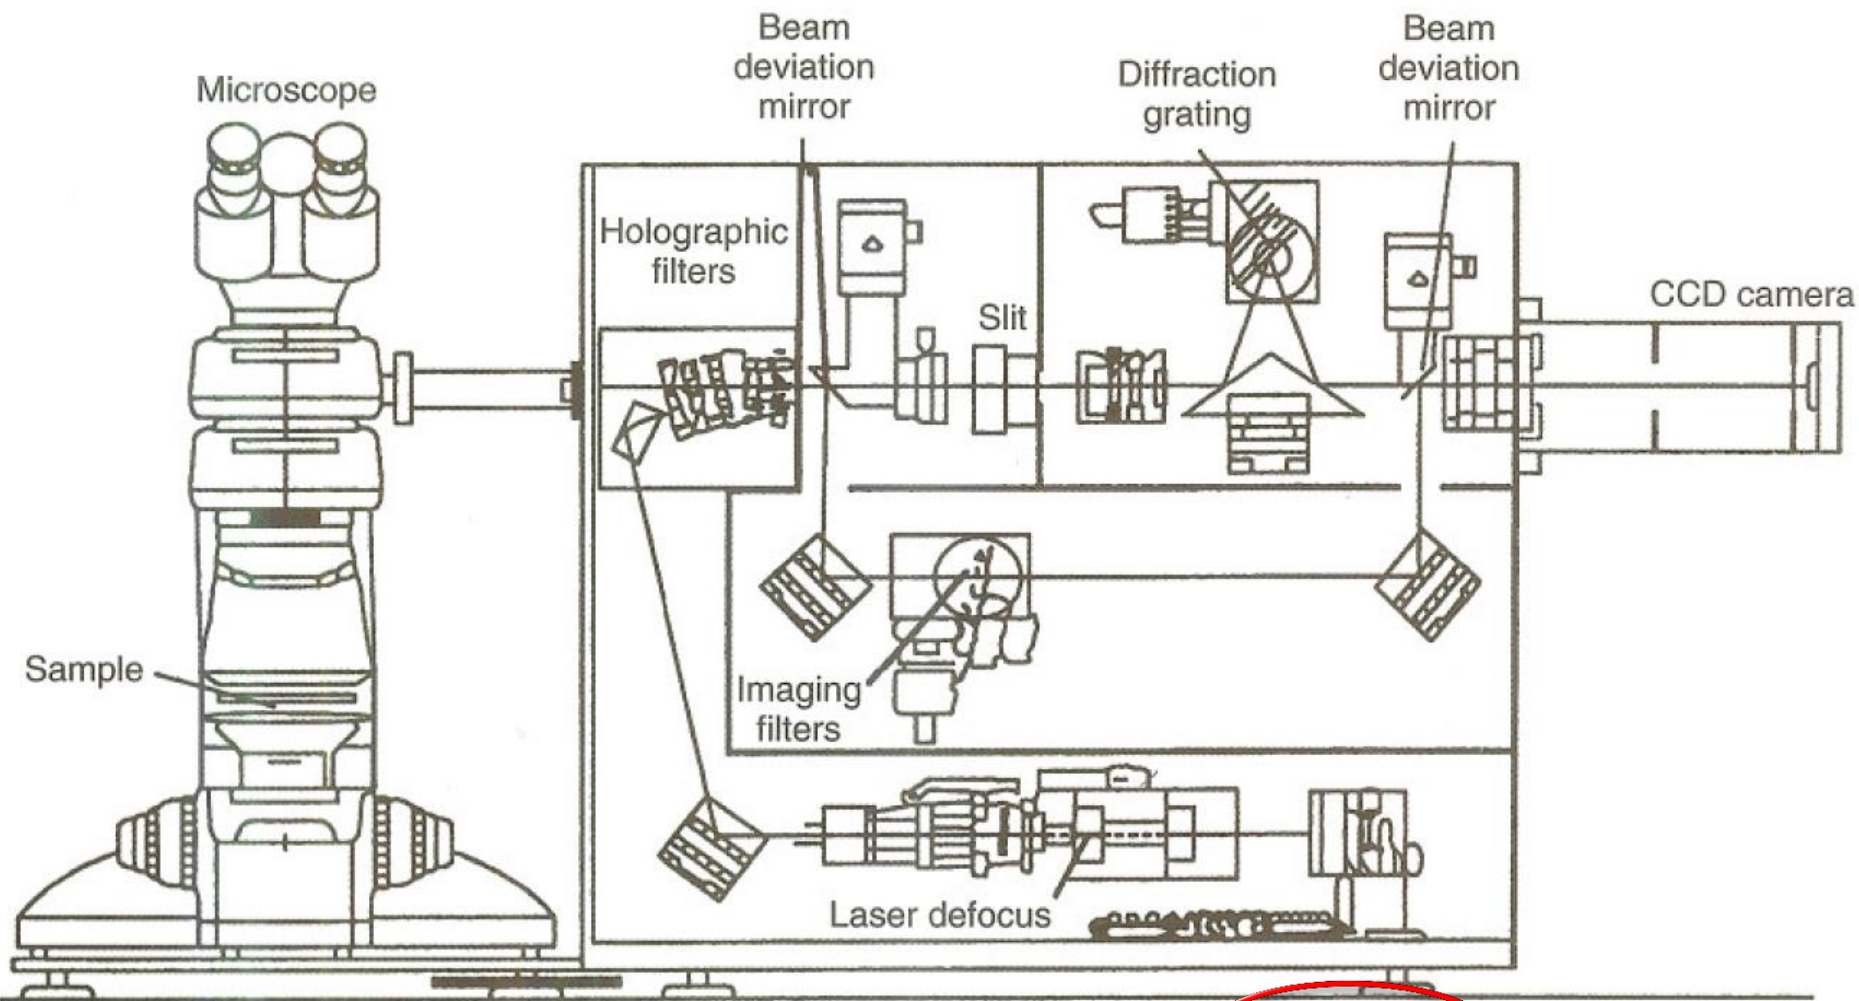

Figure 7. Schematic of a modern benchtop Raman microprobe spectrometer. [Diagram courtesy of Renishaw Pty. Ltd.]
**Figure 7.** Infrared spectra of  $\text{POM}^{34}$  (a) ECC and (b) FCC [Reproduced by permission of Kluwer Academic Publishers from M. Kobayashi, 283–294 in ‘Crystallization of Polymers’ M. Dosiere ed (1993).]